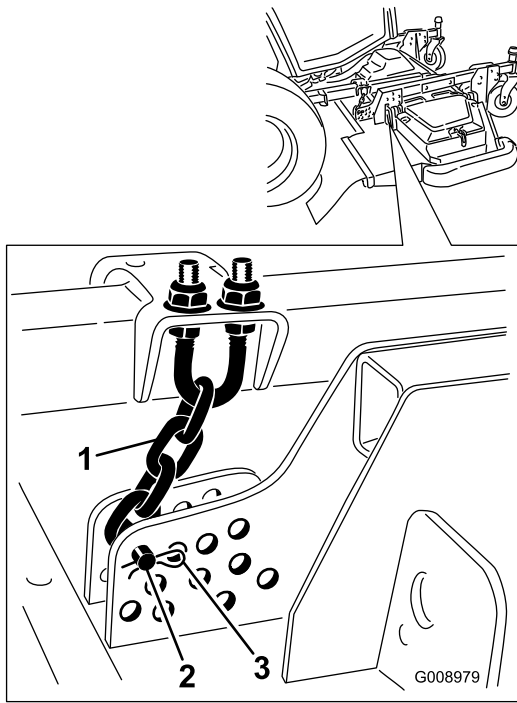

Figure 103
4. Remove the hairpin cotter and clevis pin securing the height-of-cut chains to the rear of the cutting unit (Figure 103).